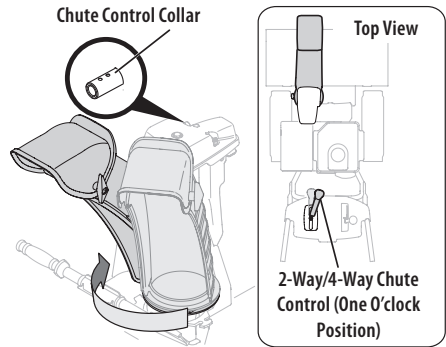
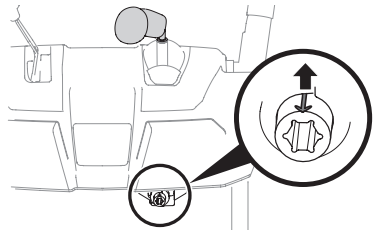

Figure 22
Figure 23
- Squeeze trigger on 2-way/4-way chute control and rotate chute by hand to face forward. The holes in chute control collar will be facing up (Figure 22).
- Rotate 2-way/4-way chute control to one o'clock position (Figure 22) so that indicator arrow on pinion gear below control handle faces upward (Figure 23).